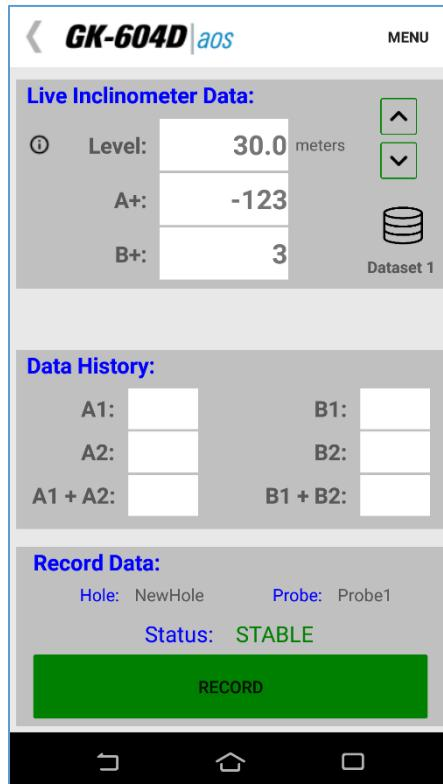

Figure 96 - Live Readings Screen
- 4) Turn on the Android device, turn on the Remote Module (blue light blinking) then launch the GK-604D|aos application. Tap on the “Live Readings” button (from the APP menu) and verify that the Android unit has connected to the probe. The Live Readings screen should be displayed (Figure 96) and inclinometer readings can be observed. Wait until the probe temperature has stabilized and the reading doesn’t change.
- 5) Make sure that the dataset indicator in the Live Readings screen (Figure 96) is “Dataset 1”. Take the first reading, pull up on the cable until the next cable marker sits just above the cable grips on the pulley assembly, (or in the cable hold), and, after a short pause, take another reading.